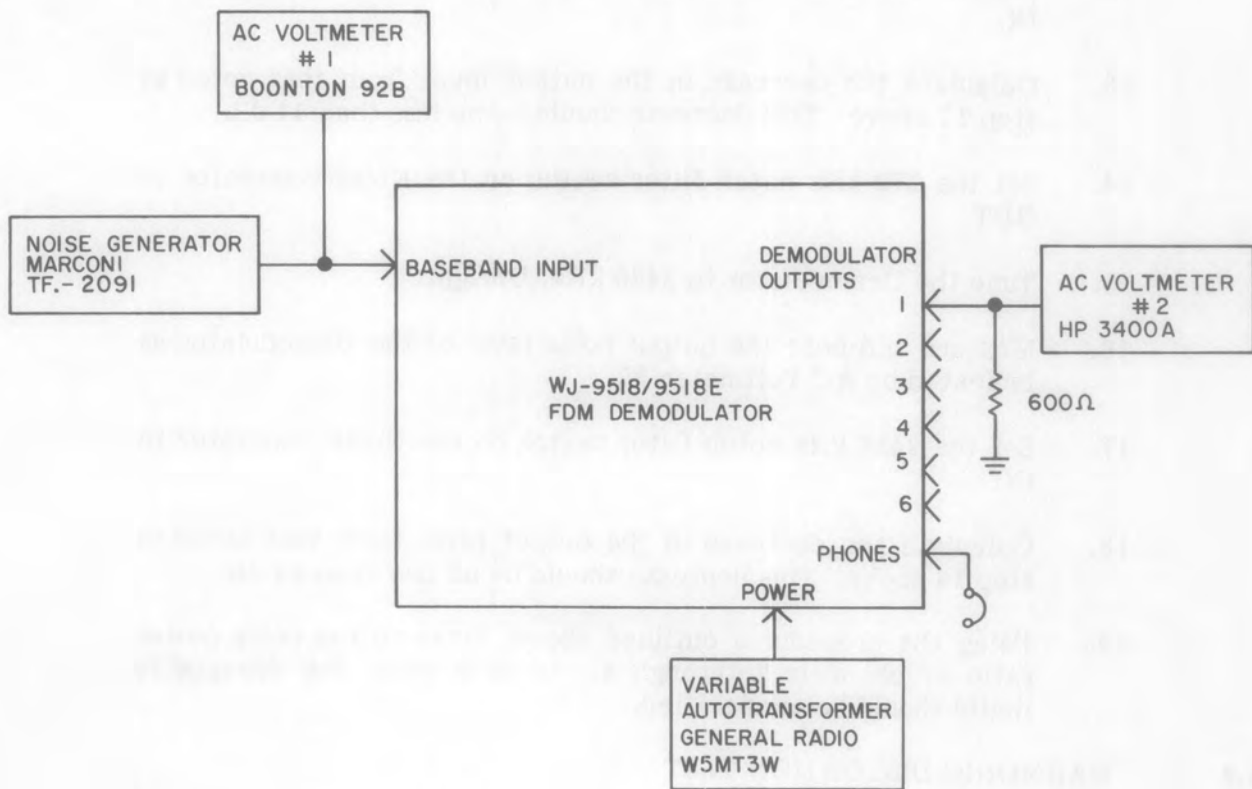

Figure 4-3. Test Equipment Setup for Noise Power Ratio Test
1. Connect the test equipment as shown in Figure 4-3.